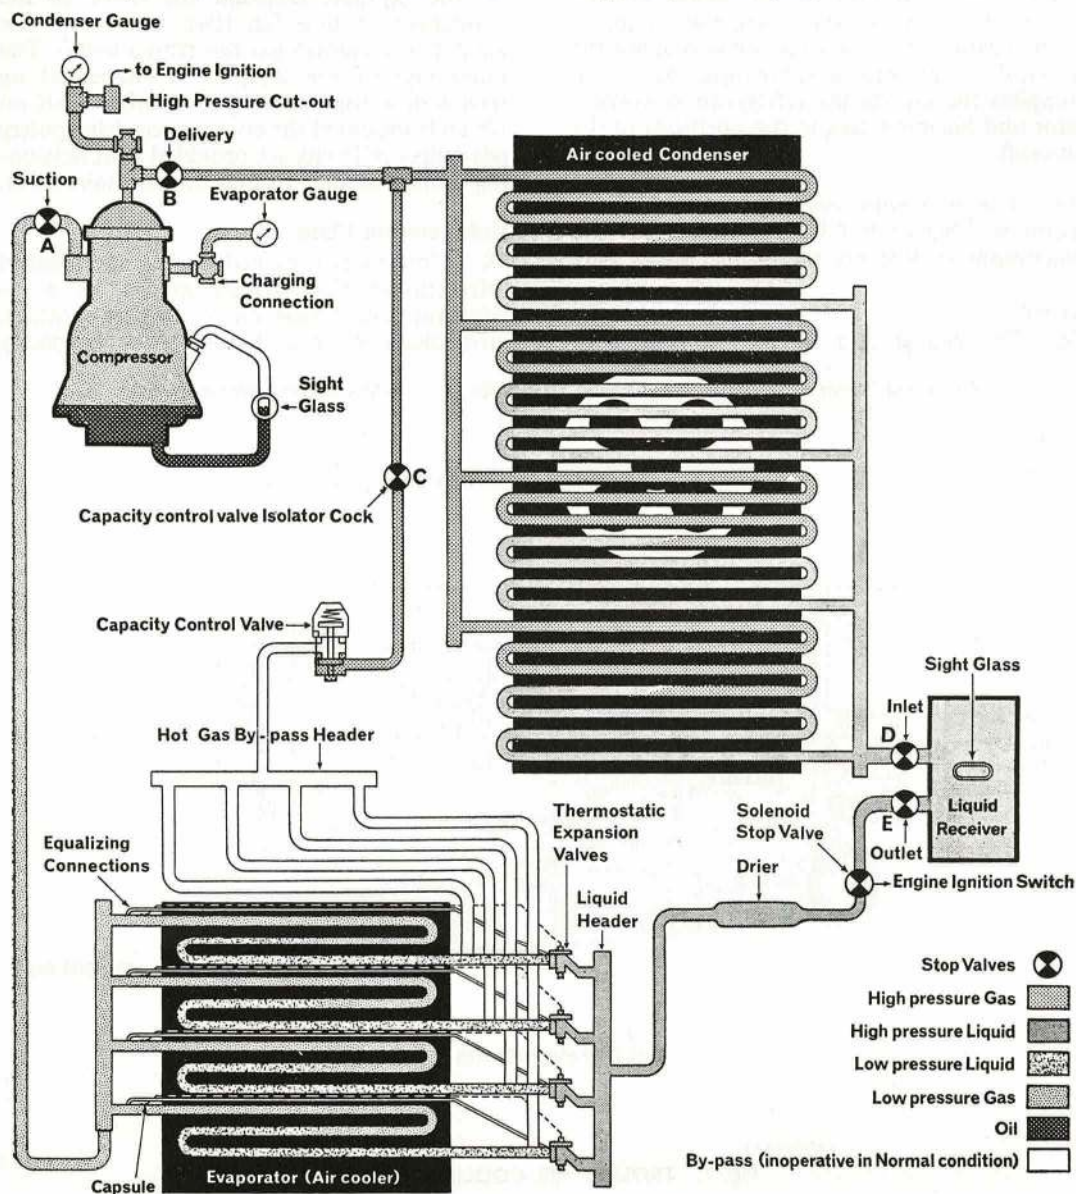

Fig. 8. REFRIGERATION SYSTEM
39. The refrigeration system (Fig. 8) is a closed circuit of pipelines in which the refrigerant (freon 12) circulates. It consists of